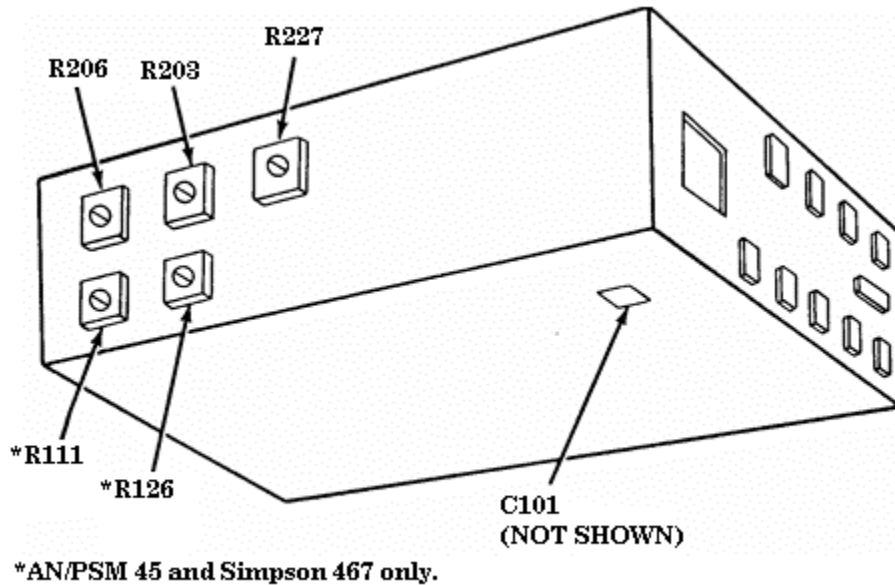

Figure 1. Adjustment locations.
- (1) Short leads and adjust R111 (fig. 1) for a TI bar graph display of 0 segments.
- (2) Set calibrator for an output amplitude of 200 mV and adjust R126 (fig. 1) for a TI bar graph display of 20 segments.
- (3) Set calibrator for an output amplitude of 190 mV and adjust R227 (fig. 1) for a TI indication of 190.0 (R).
(1) Short TI leads and adjust R206 (fig. 1) for a TI indication of 0.00.
(2) Set calibrator for an output amplitude of 190.0 mV at a frequency of 1 kHz and adjust R203 (fig. 1) for a TI indication of 190.0 mV (R).
(3) Set calibrator for an output amplitude of 1.900 V at a frequency of 5 kHz and adjust C101 (fig. 1) for a TI indication of 1.900 mV (R).